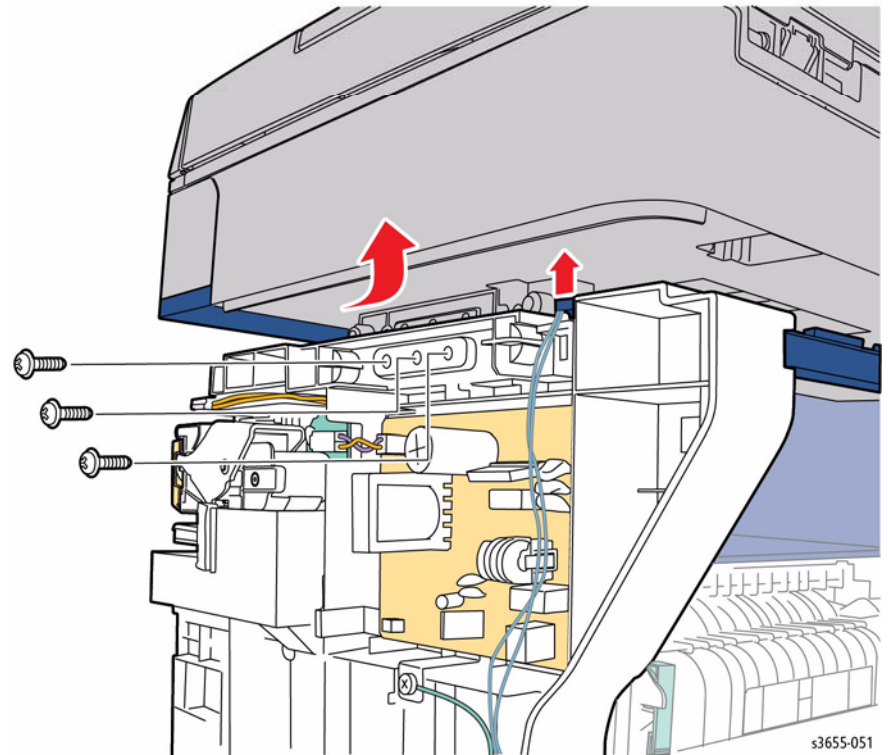

Figure 2 Remove the IIT screws
10. Refer to Figure 2 and slide the IIT support to the rear to release 1 boss while lifting the IIT Assembly to release the Scanner and SubLV Harness Guide. Lower the IIT support to the work surface. Use the Inner Right Cover or similar to support the IIT Assembly.